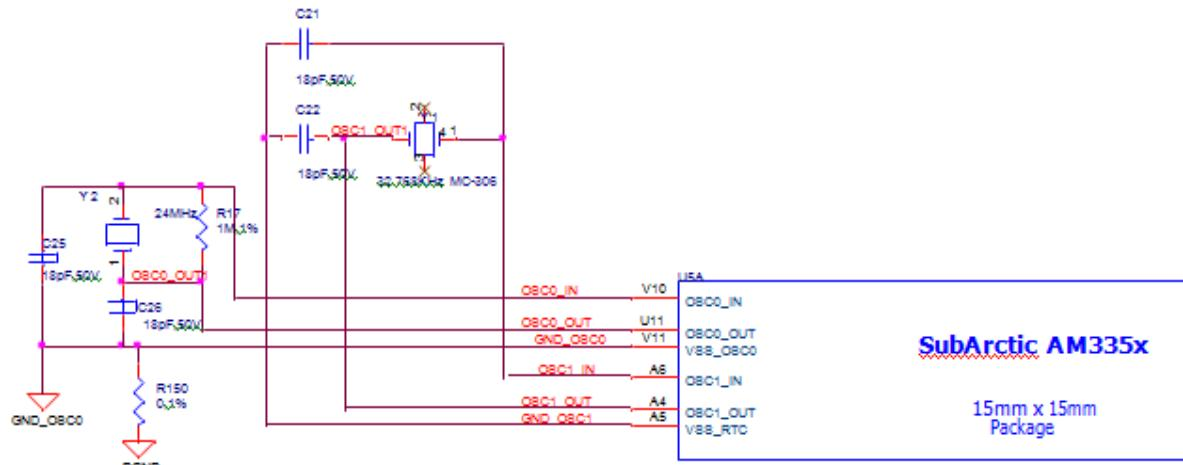

Figure 30 Processor Crystals
**Figure 30** is the crystal circuitry for the AM3358B processor.